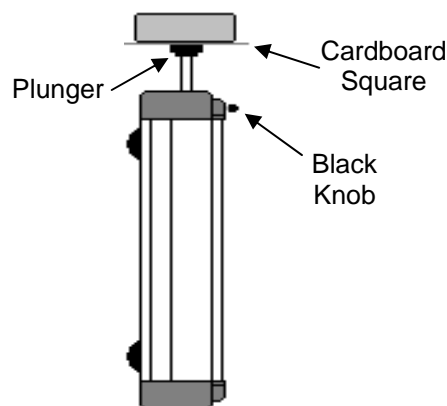

FIGURE 2 –
**C)** Take the cart and stand it on end. Make sure that the plunger is NOT compressed. Also, take the cardboard square and center it on the plunger. **See Figure 2.** NOTE: At this point the plunger should NOT be compressed.